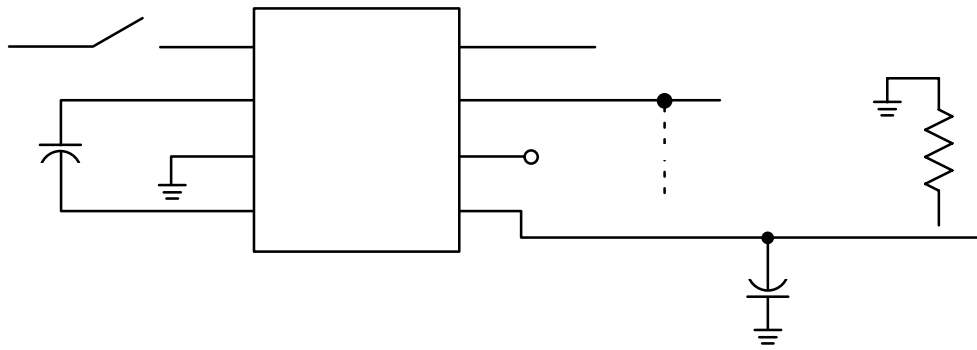

Figure 3. Test Circuit
Table 3. ELECTRICAL CHARACTERISTICS (V+ = 5 V, C1 = C2 = 150 μF, Boost/FC = Open, C_{OSC} = 0 pF, inverter mode with test circuit as shown in Figure 3 unless otherwise noted. Temperature is over operating ambient temperature range unless otherwise noted.)
- In Figure 3, test circuit capacitors C1 and C2 are 150 μF and have 0.2 Ω maximum ESR. Higher ESR levels may reduce efficiency and output voltage.